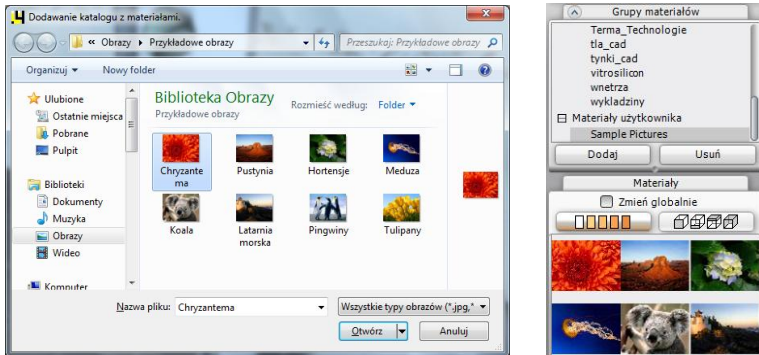

Fig. 171 – adding user own textures
- click **Add** and indicate the location of the directory on the disk in which they are stored (Fig. 171);